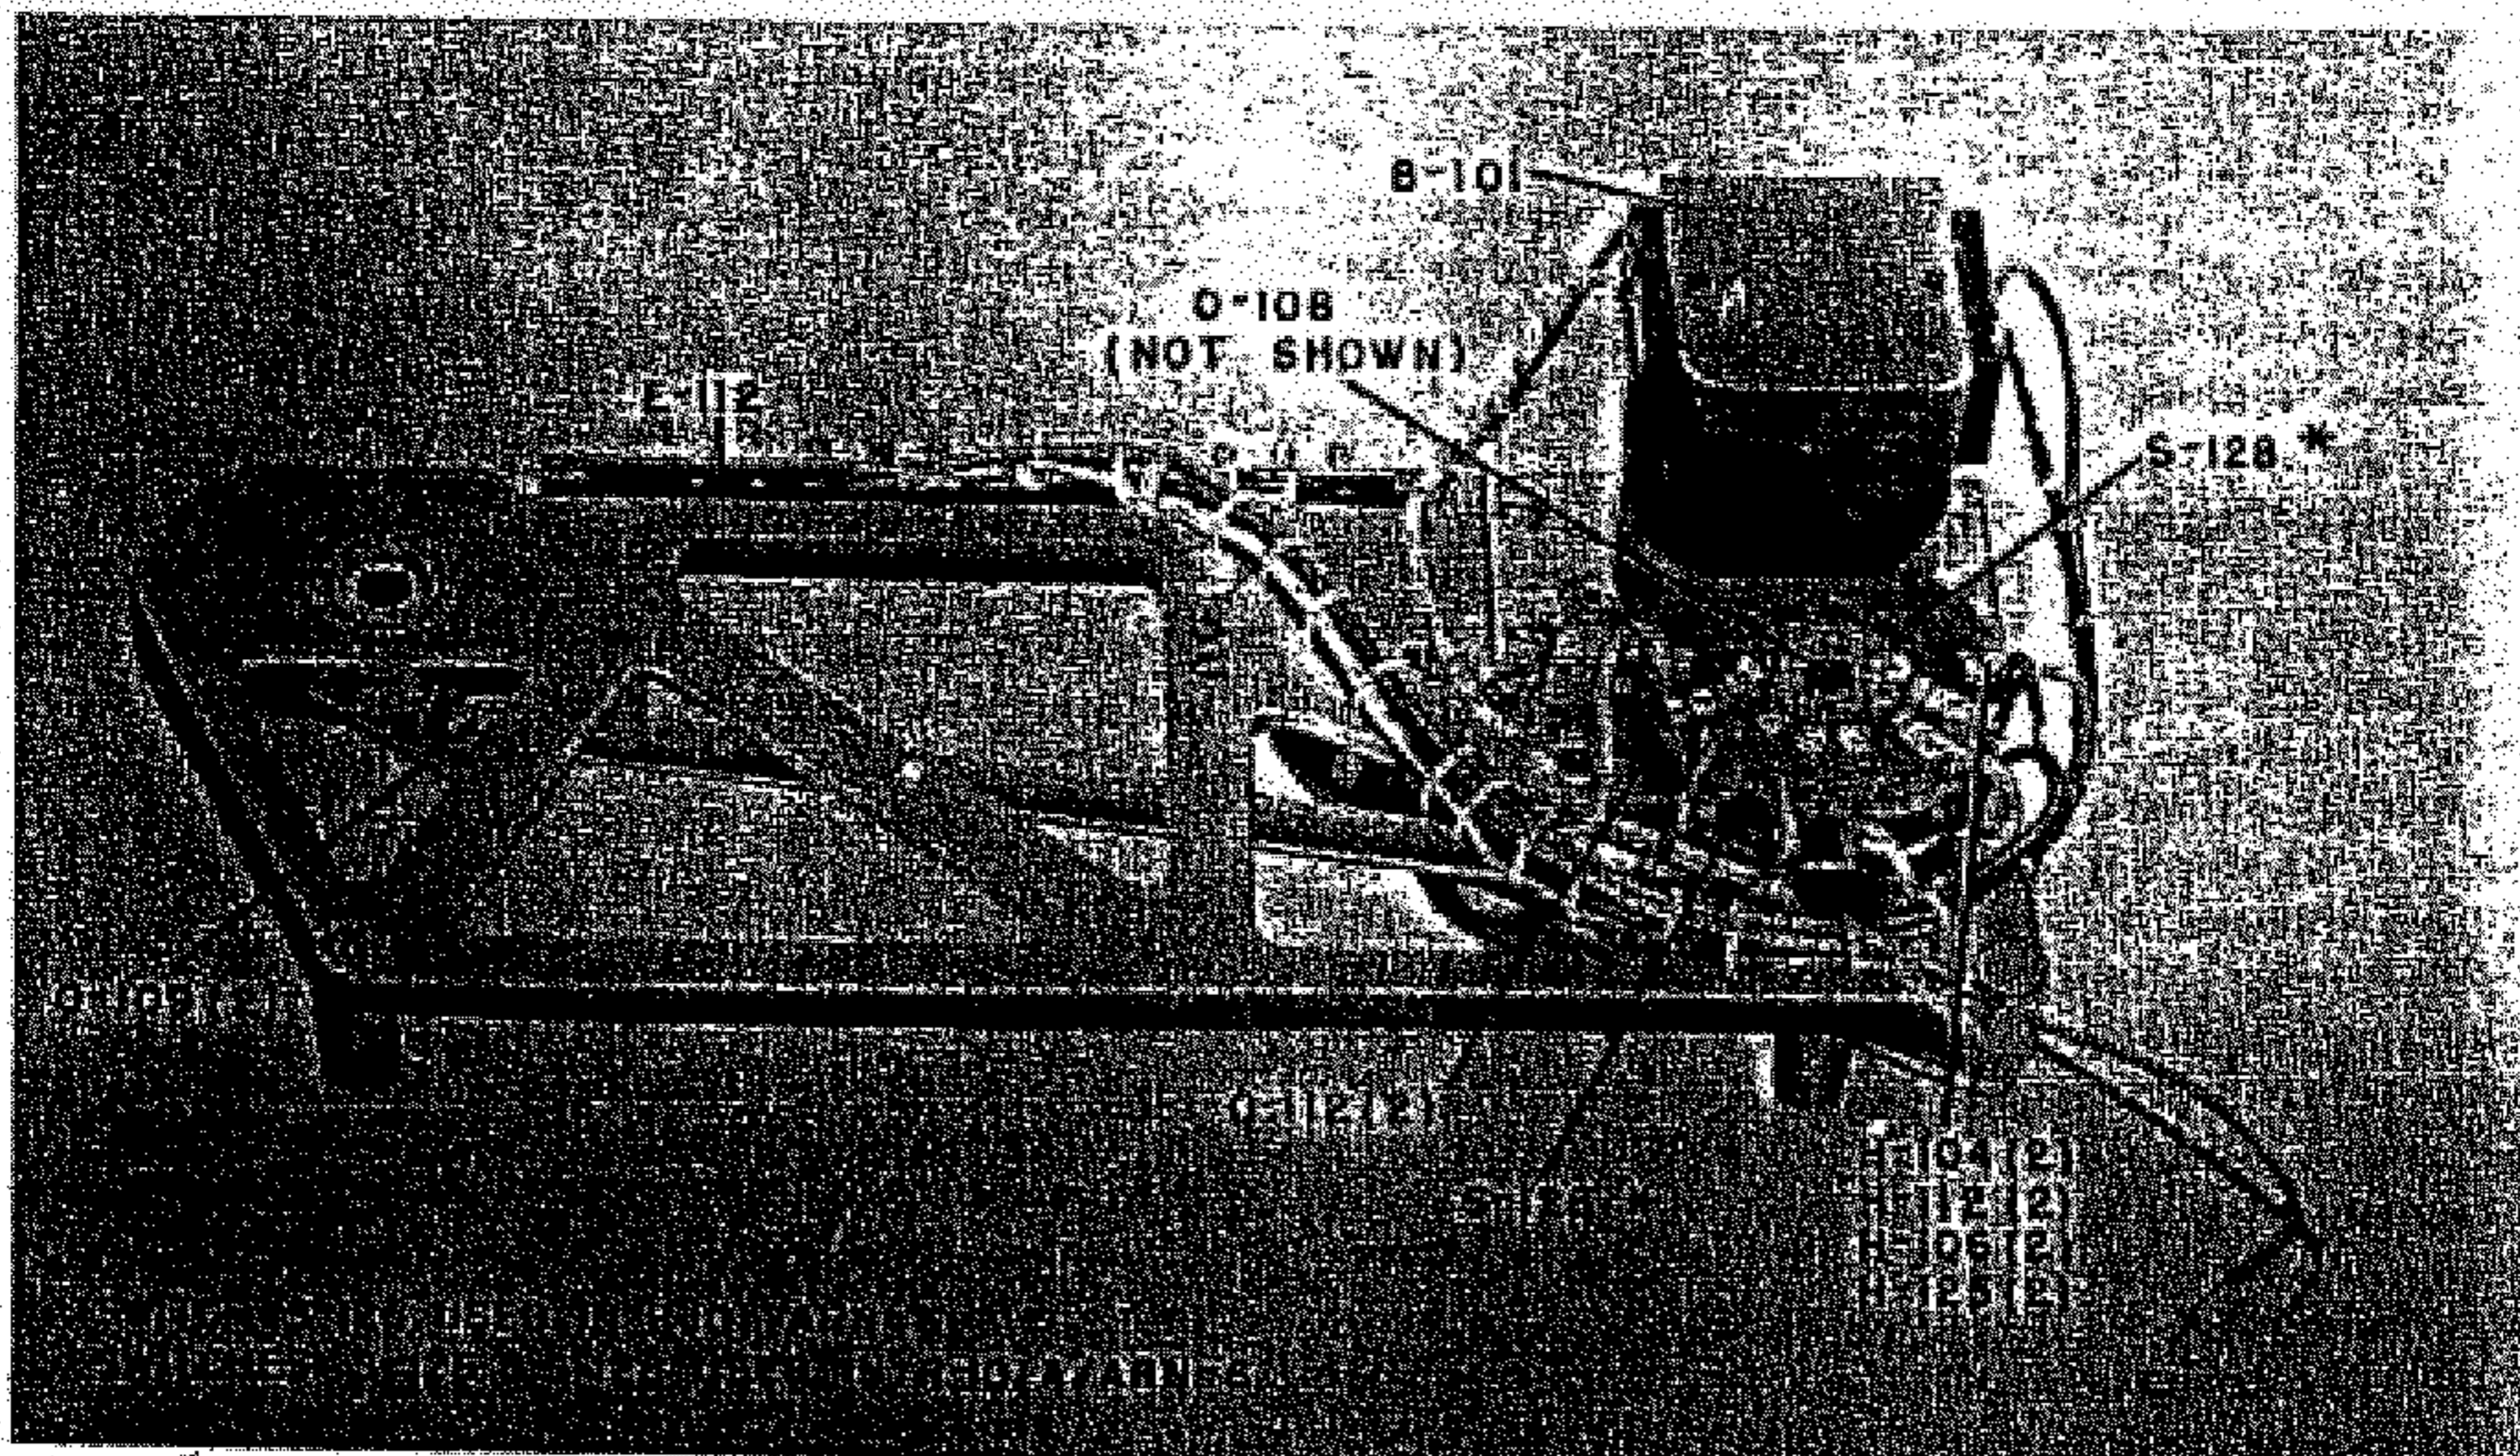

Figure 5-33. Band-Switch Mechanism, Motor Side
2. Switch wafers S-126 (of R-101/ARN-6) and S-126 and S-128 (of R-101A/ARN-6) are attached by two screws. Figure 5-33 shows how the mounting parts are assembled. When reassembling the switch to the frame, be sure the turned-up ears on the switch rotor fit into the two notches in the adapter ring O-108.
3. The gear train is disassembled by removing the triangular bearing plate, which is held by three screws. (The gear train is shown in figures 5-33 and 5-34.) The gears can be removed in the sequence O-105, O-104, and O-106. It is necessary that the pin on O-105 be out of any slot in geneva disc O-103 to lift the gear out; otherwise, there is interference between the "horns" of O-103 and the milled clearance slot in the shaft of O-105. O-106, the gear which is directly meshed with the motor shaft gear, can be removed if O-103 is moved along its axis to the extent of its play.